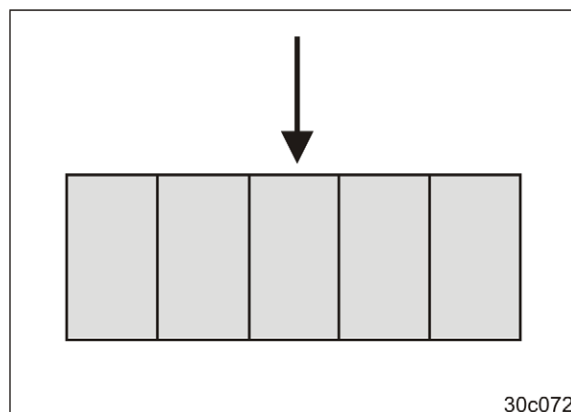

Fig. 190
1. Press the Shift-key of the **AMATRON⁺** operator terminal and activate the symbol (Fig. 190).
1. Deactivate the symbol "Turning on the roller" appearing in the (**AMATRON⁺**) display (Fig. 190) so that the machine can be raised above the integrated running gear.
- The symbol (Fig. 190) is deleted.